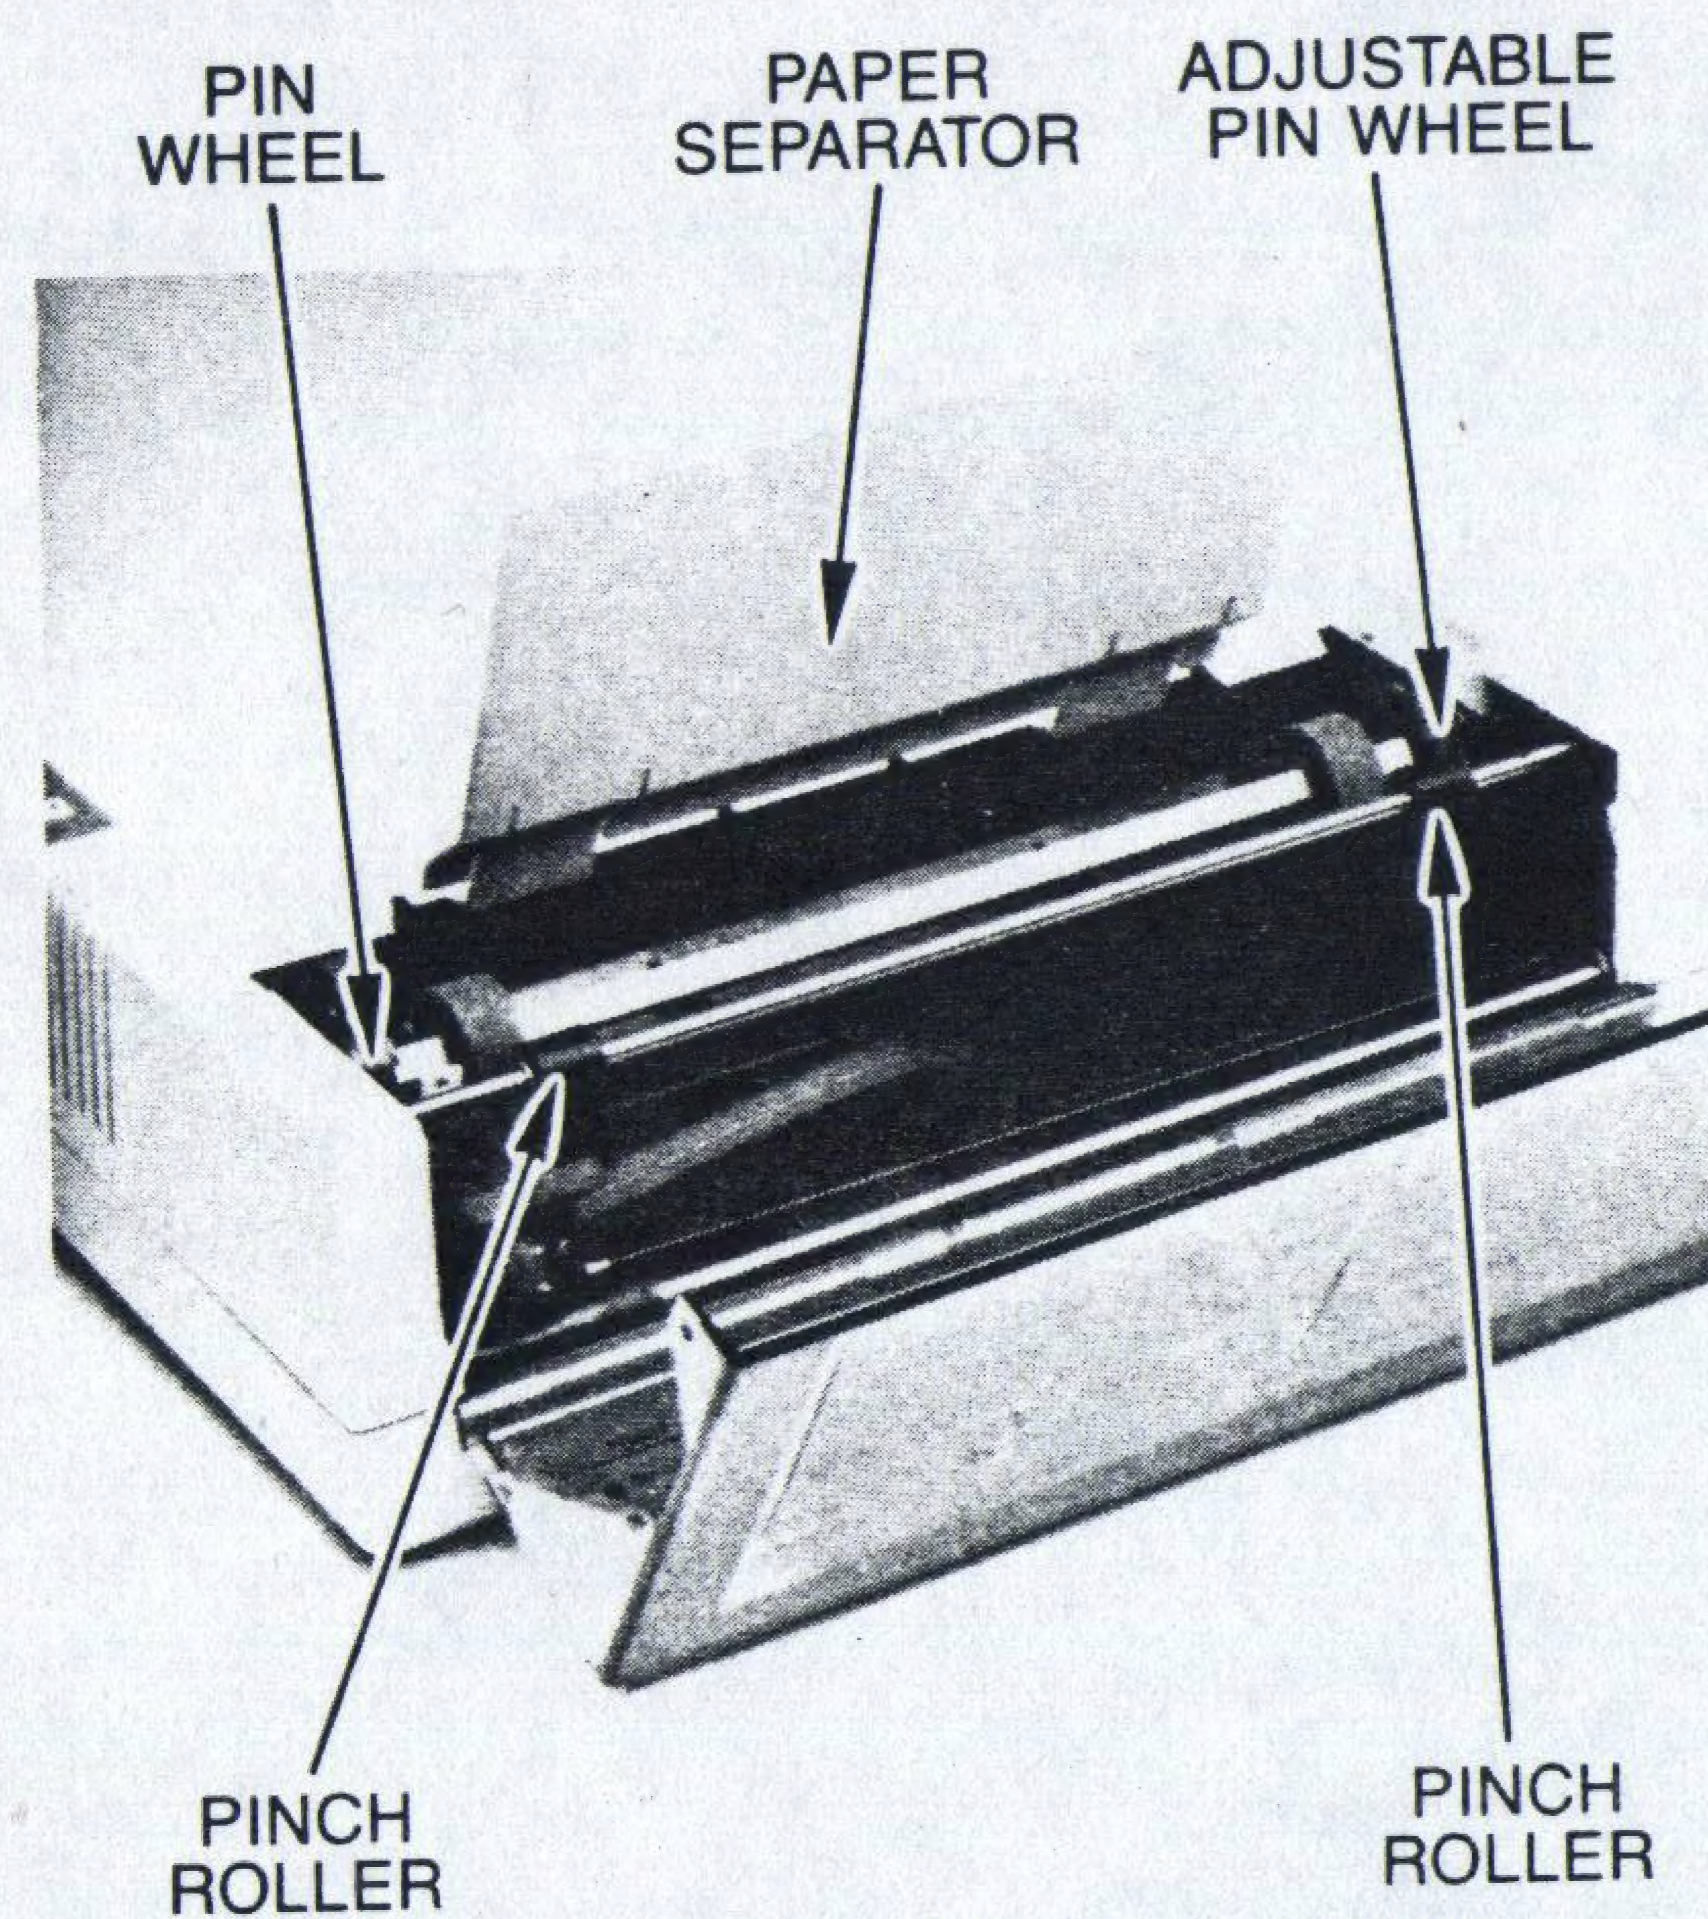

Figure 1-7 Raised Paper Separator
- Install the paper separator and raise it as shown in Figure 1-7.